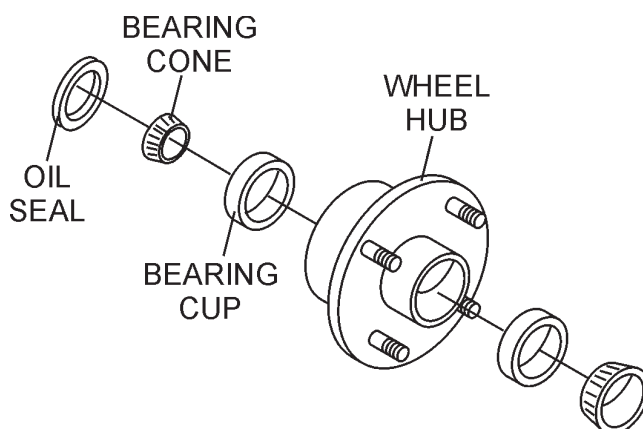

Figure 29. Wheel Hub and Bearings
1. After every 3 months of operation, remove the hub dust cap and inspect the wheel bearings (Figure 29). Once a year, or when required, disassemble the wheel hubs remove the old grease and repack the bearings forcing grease between rollers, cone and cage with a good grade of high speed wheel bearing grease (**never** use grease heavier than 265 A.S.T.M. penetration ("No. 2."))
2. Fill the wheel hub (Figure 29) with grease to the inside diameter of the outer races and also fill the hub grease cap. Reassemble the hub and mount the wheel. Then tighten the adjusting nut, at the same time turn the wheel in both directions, until there is a slight bind to be sure all the bearing surfaces are in contact.